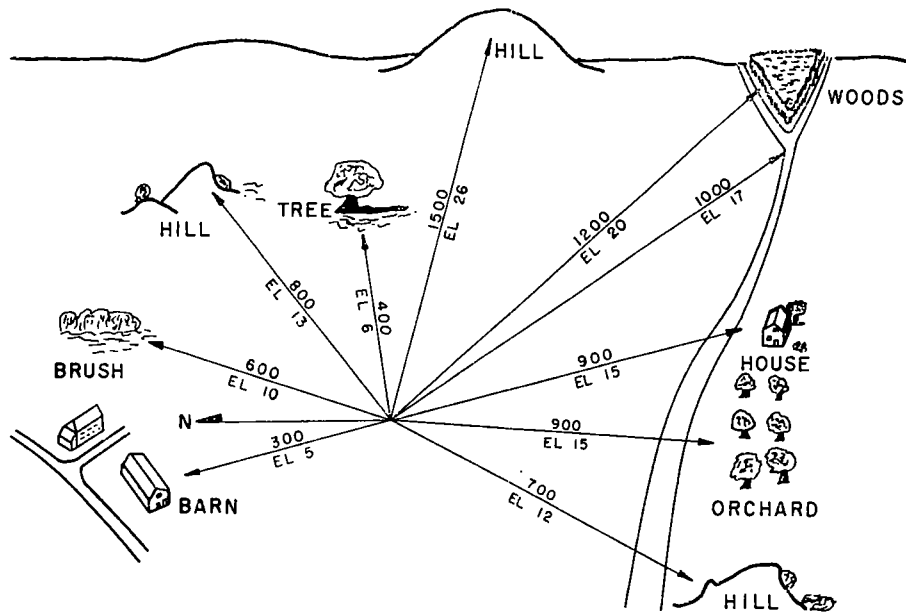

Figure 8. Range card for direct laying.
- (1) Measure or estimate the ranges to prominent terrain features and likely avenues of approach.
- (2) Establish reference points as required.
- (3) Prepare a range card (fig. 8).
- (4) As time permits, replace estimated ranges with more accurate ranges obtained by, pacing, taping, speedometer, maps or survey.